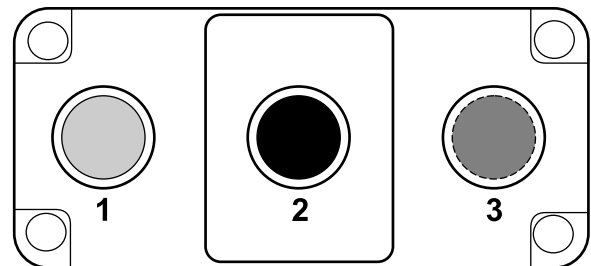

Figure 17
3. Identify the switch terminal locations, wire harness labels, and wire harness colors (Figure 17).
Note: The switch is spring-loaded to the rear of the switch (Figure 18). The switch is normally open between terminals 1 and 2 (Figure 17).
4. Secure the red wire labeled BYPASS ENGAGE SWITCH 2 to the override switch center terminal number 2 (Figure 17 and Figure 18).
5. Secure the gray wire labeled BYPASS ENGAGE SWITCH 1 to the override switch rear terminal number 1 (Figure 17 and Figure 18).